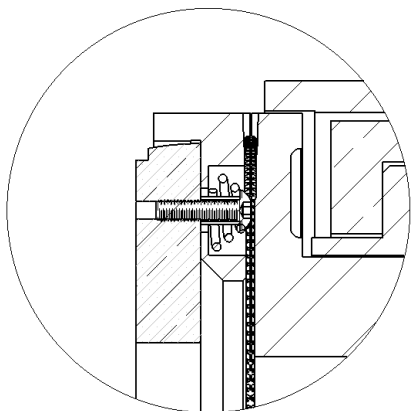

Figure 1
- The armature is then mounted on the splined adapter making sure the spring holes in the armature align with the screw holes in the splined adapter. The spacers and springs are placed over the screw and the screw is to be locked in place using a thread locker such as Loctite at assembly. Make sure the spring is not caught between the screw head and the spacer. See Figure 1 below.